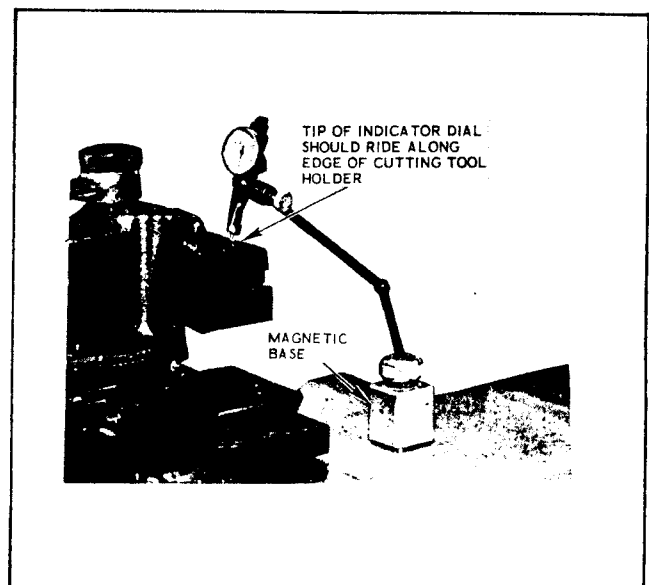

Figure 2-27. Indicator Dial Installed on Lathe for Checking Template Rail Alignment
- (1) Turn on the hydraulic power unit and center the travel limit indicators on the top and bottom slide assembly.
- (2) Place a dial indicator on the lathe carriage with the tip of the dial riding on the edge of the cutting tool holder as shown in figure 2-27.
- (3) Insert a test stylus (3/8 inch dowel) in the tracer valve spindle.